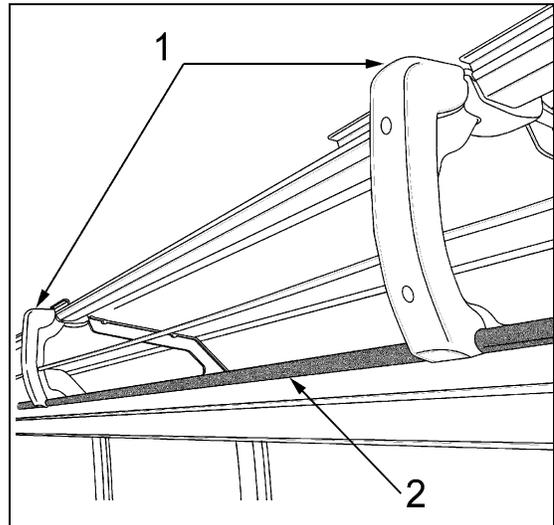

Figure 2: Door-less parcel racks. (1) Vertical supports; (2) New moulding.
3. Install the new moulding on the parcel rack, as shown on figure 2, item 2. Make sure that each moulding is located symmetrically between two vertical supports (figure 2, item 1). Press the moulding firmly in place to be sure it is flat.